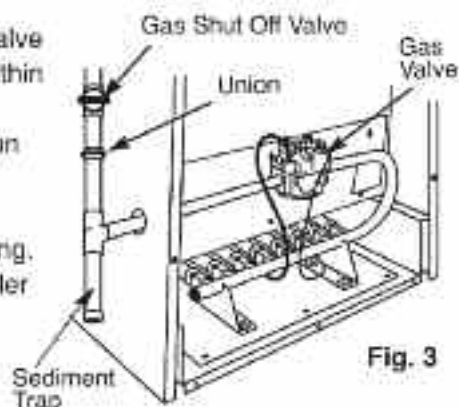

Fig. 3
6. Install sediment trap, ground-joint union and manual shutoff valve upstream of boiler gas control valve and outside jacket, but within two foot of outside of boiler jacket. See drawing Fig. 3.